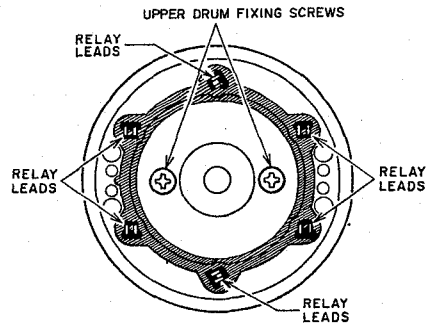

Fig. 3-19
- 2) Unsolder the twelve relay leads and remove the two upper drum fixing screws as shown in Fig. 3-19.